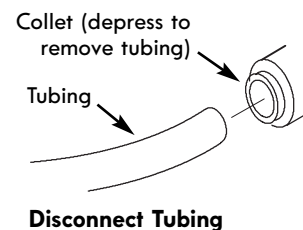

FIG. 4
1. Push the collet inward with a finger tip. See Fig. 4.
2. Continue holding collet inward while pulling the tubing out. See Fig. 4.